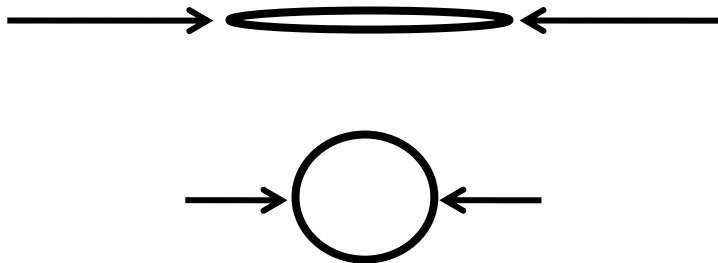

Figure 1 - 'Opening' the sleeve
- 'Open up' the sleeve by pressing across the open end of the sleeve as in Fig.1.